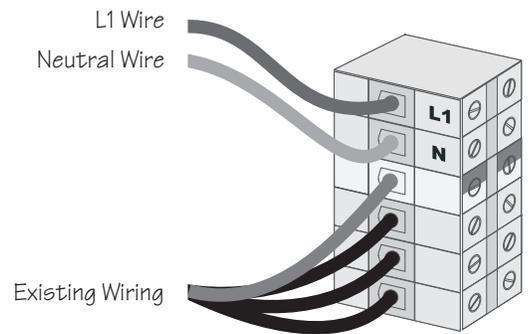

Fig 4-5 Input Hardwiring Connections
8. Connect input wires to the input terminal block connections labeled “L1” and “N” as shown in figure 4-5. Make sure there are no loose strands and that the terminal connection screws are sufficiently tightened.